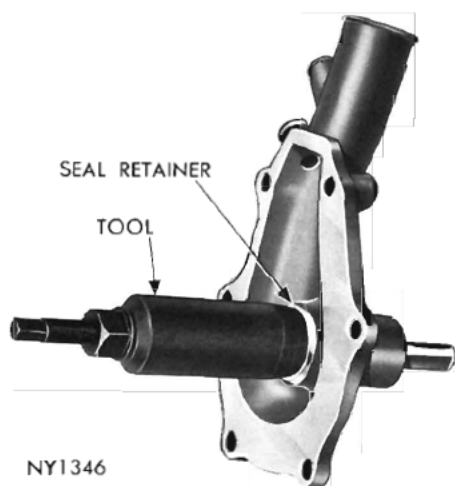

Fig. 5—Removing Seal Retainer
(1) Break the plastic impeller and remove it from the metal insert.
(2) Remove the separator plate and gasket.
(3) Split the sintered metal insert of the plastic impeller with a chisel and hammer.
(4) Remove the rubber portion of the shaft seal and the spring.
(5) Using puller Tool C-3753 (Fig. 5) remove the retainer portion of the seal.
(6) Remove the fan hub using puller Tool C-412.
(7) Support the pump body on the front face (fan hub end) and apply pressure to the rear end of the shaft to press the shaft and bearing assembly out through the front of the pump. If an attempt is made to remove the shaft in the opposite direction damage to the pump body may result.